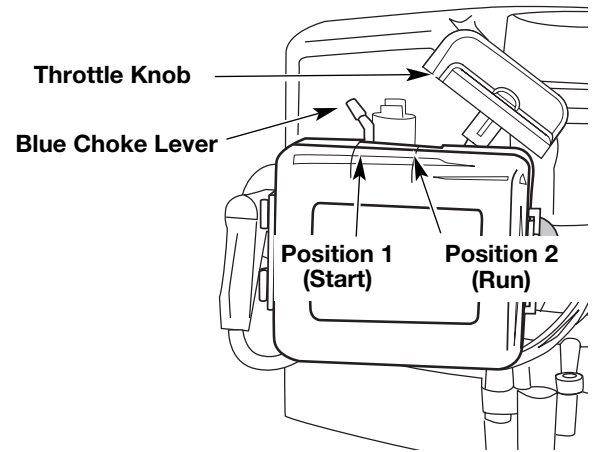

Fig. 3
3. Place the blue choke lever in Position 1 – Start (Fig. 3).